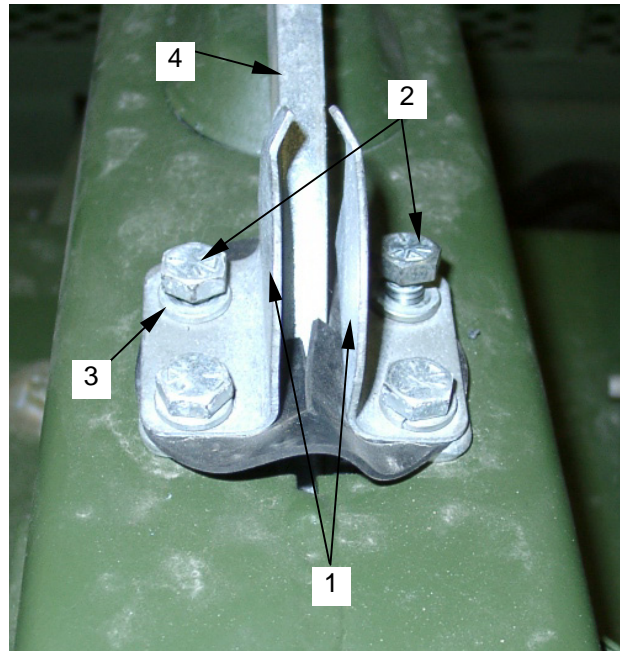

Figure 11. Breakaway Lever Mounting Bolts
5. Place the breakaway locks (**figure 11, item 1**) into their original position, and reinstall the two rear bolts (**figure 11, item 2**) and lockwashers (**figure 11, item 3**) located on each side of the breakaway lever (**figure 11, item 4**).